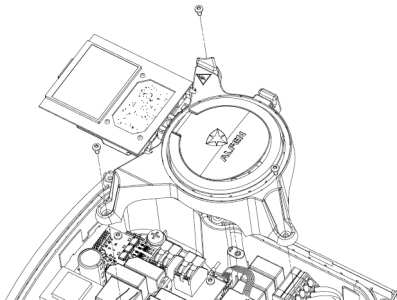

Figure 6: Detach subframe
8. Remove the transparent subframe by removing the three Torx T20 screws. (See figure 6)